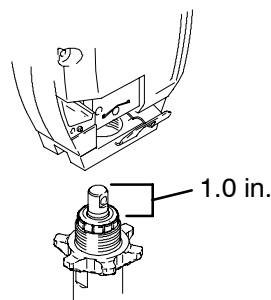

Fig. 12
1. Fig. 12. Pull piston rod out 1.0 in. Screw in pump until holes in housing plates and piston rod align.